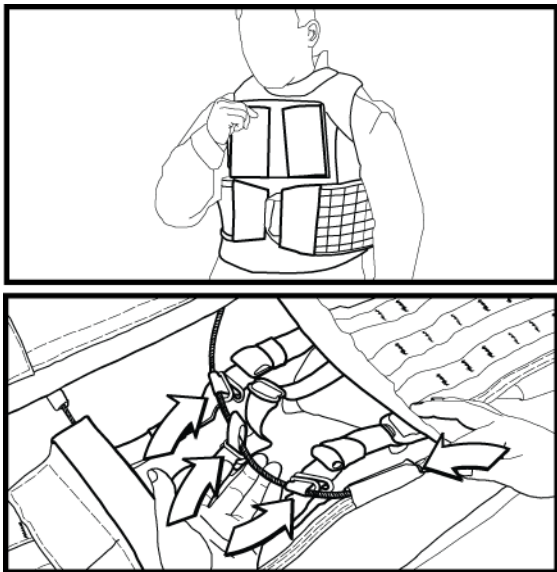

Figure 29. Adjusting Size.
27. Adjust IOTV size (Figure 29).